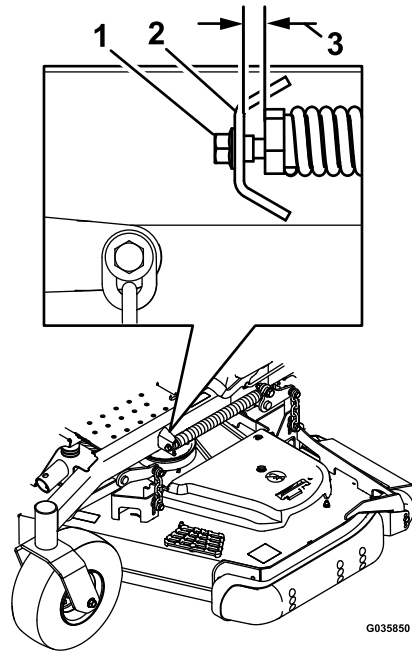

Figure 97
- B. Slowly loosen the adjusting screw on the lift-assist spring until you can remove the screw (see Figure 97).